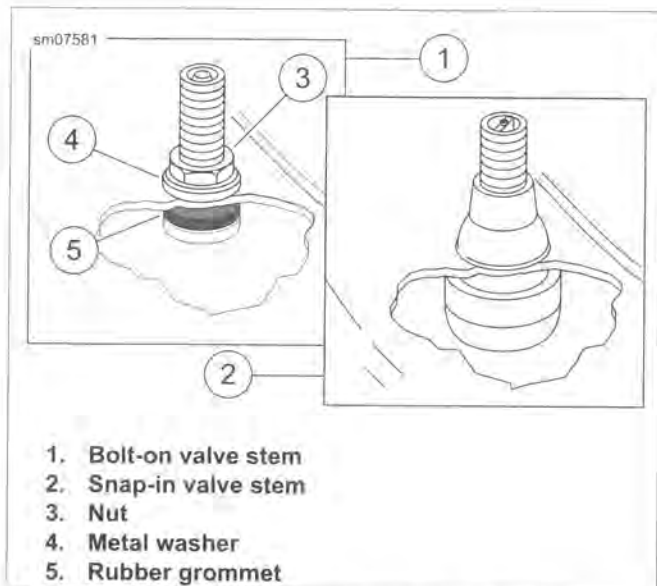

Figure 2-83. Tubeless Tire Valve Stems
1. See Figure 2-83. Replace damaged or leaking valve stems.
2. Install rubber grommet (5) on valve stem before tightening nut (3).
4. Install metal washer (4).